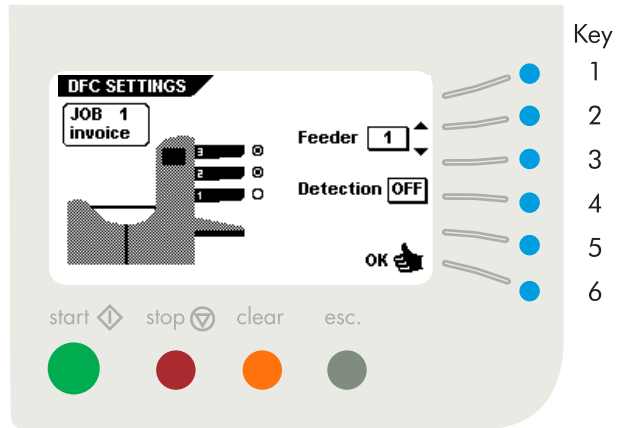

Fig. 47
When the "DFC settings" menu is selected and key 3 is pressed in the "job settings" menu, the display shows the screen as shown in fig. 47. This menu shows the following functions: